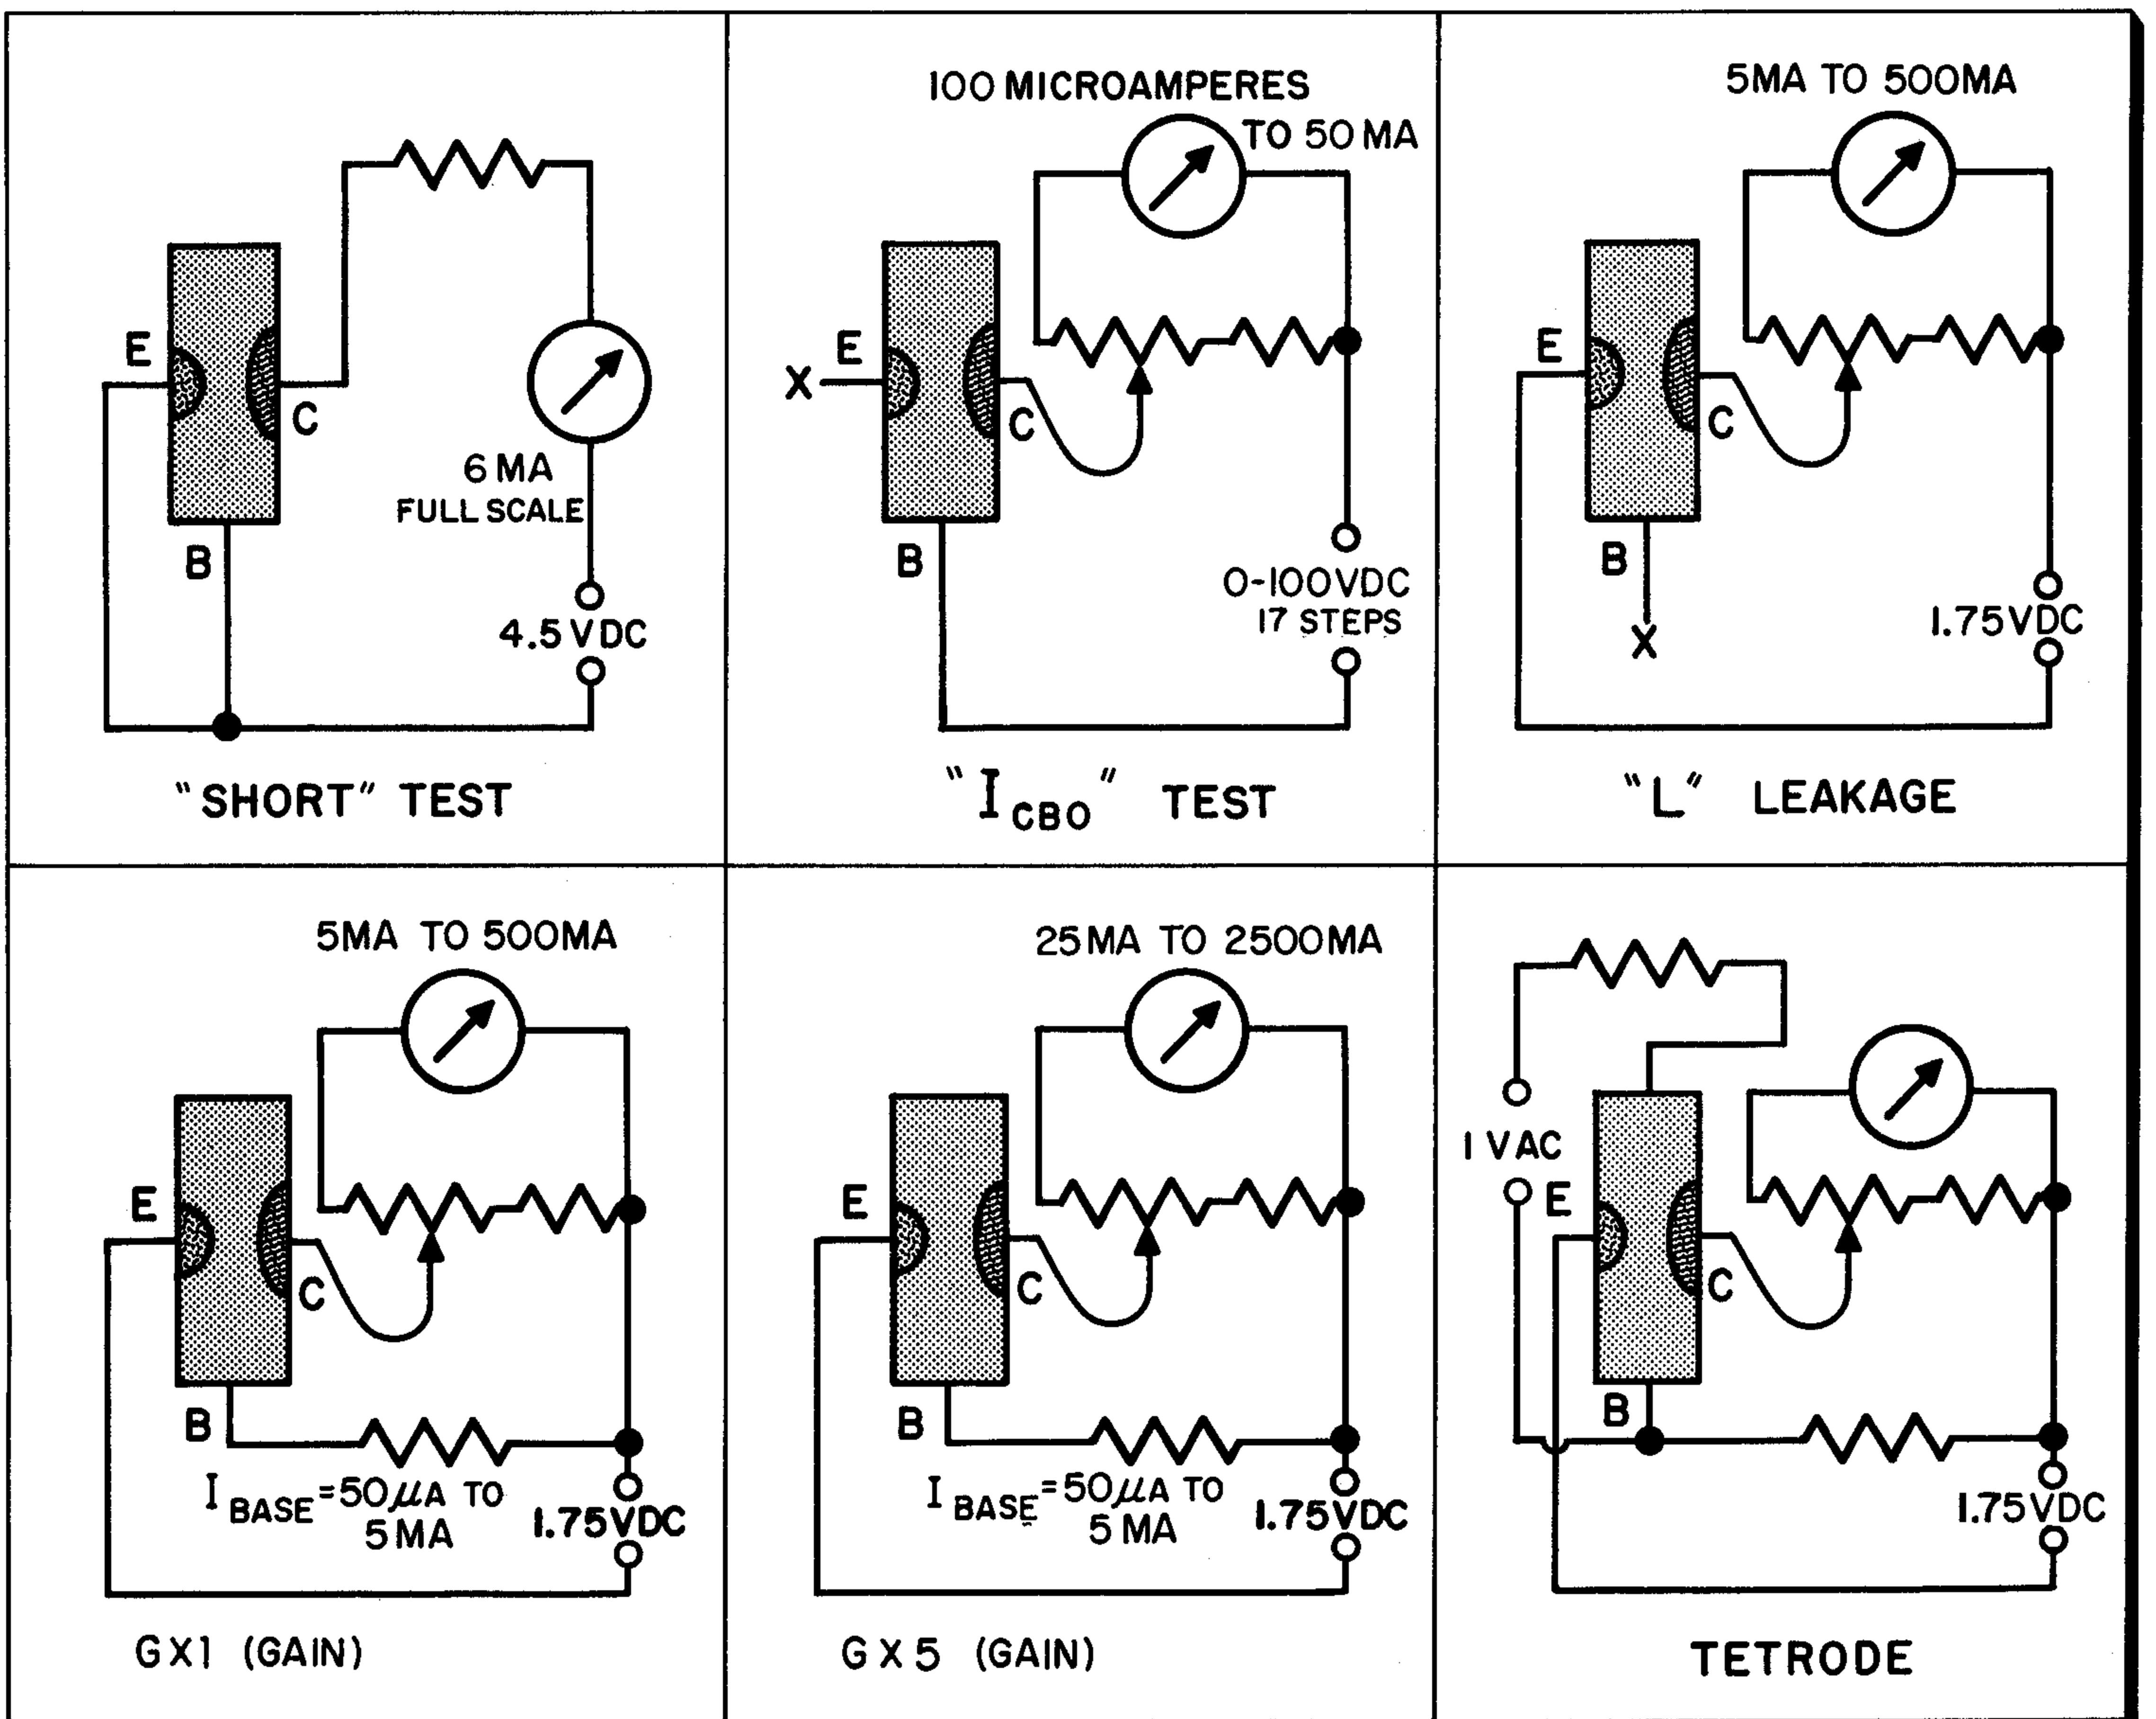

FIG. 2 BASIC CIRCUITS • 960 TRANSISTOR TESTS
1. Icbo - This symbol indicates the current flowing between the Collector and Base with the Emitter open. See Fig. 2, second illustration. It will be noticed therefore that the first two symbols after the "I" indicate the circuit in which the current is to be measured: the symbol missing in this particular example is the "E" (Emitter). The "O" at the end of the symbol indicates that the missing symbol ("E" in this case) is open-circuited for this particular type of test. In other words, if we had a case where the test required a measurement of current flowing between the Emitter and the Base, with the Collector open, the symbol would read "Iebo". In fact, "Iebo" is a characteristic used by the transistor manufacturer for some types of tests. (See "Special Tests for Transistors", page 9).
closely to each other and create diffused regions, separated only by an extremely thin wall of crystal material. It becomes obvious therefore that shorts may occur between Emitter and Collector: the "Short" position of the transistor test facilities of the Model 960 is therefore the first important test. See Fig. 2, "Short Test". A shorted or low resistance transistor should be rejected without further testing, since damage to the meter can result should the next sequence of tests be attempted.
As noted previously, Icbo (Collector Cut-off Current), which is measured per Fig. 2, second illustration, is the basic transistor test parameter, and is the second test performed on all transistors by the 960.
The third transistor test is designated as "L" or Leakage. The basic circuit for this Leakage test is indicated in Fig. 2, third illustration, and provides a meter reading which is essentially the Icbo of the transistor multiplied by the Beta (Gain). Test position "L" on the right-hand Function Selector Switch of the 960 sets up the instrument for this Leakage test. This Leakage test in itself is of no special significance insofar as the condition of the transistor is concerned. IT MERELY SERVES AS AN INITIAL READING TO BE SUBTRACTED FROM THE NEXT TEST WHICH IS DESIGNATED ON THE PANEL AS "Gx1" FOR "GAIN". SEE FIG. 2, FOURTH ILLUSTRATION.